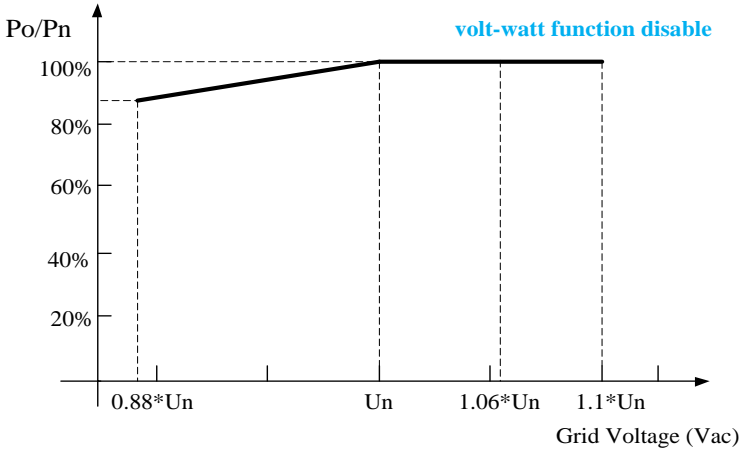

Figure 10-3-1 SCA25/50/60KTL-DO/US Derating Curve of Grid Voltage
1) When volt-watt function disable, the grid voltage is within 100%~110% ($U_n \sim 1.1*U_n$) of the Rated Output Voltage, the inverter output power (P_n) may reach 100%. When the grid voltage is lower than the Rated Output Voltage, the inverter will limit the AC Output Current and the output power (P_n) will begin to derate. shown in Figure 10-3-1.